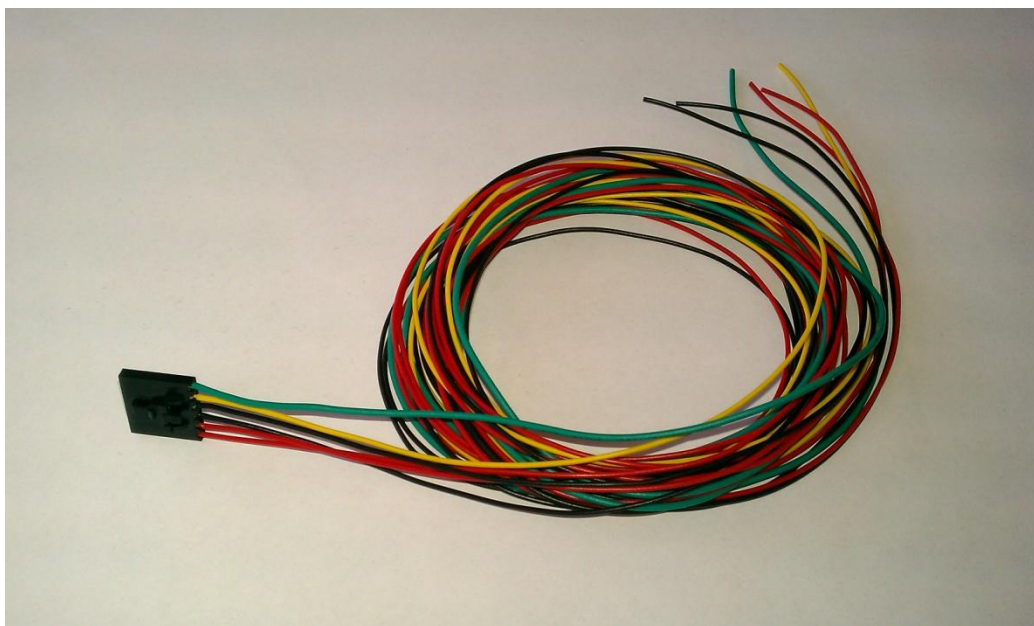

Figure 11. LPM000-LEAD-03 Output Leads
- Front panel Signal cable: Power-One accessory LPM000-LEAD-03, see *figure 11*.